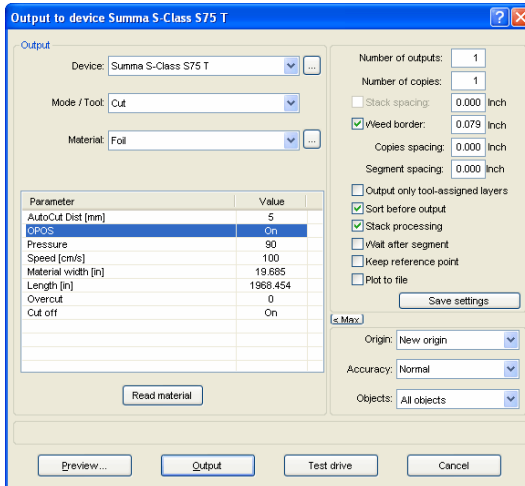
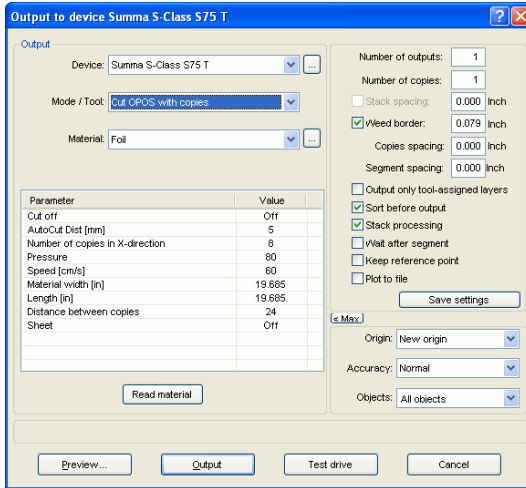

Fig. 4.10-5: Parameter setting OPOS=ON using the example of Summa S-Class
Fig. 4.10-6: Parameter setting with identical Job copies from roll (also possible with sheets, if the parameter "Sheet=On" was set)
The cutter described above are able to process sheets or rolls. EuroCUT's plotter driver support both functions. Fig. 4.10-5 and Fig. 4.10-6 show the driver parameter for the cutting with sensor for the processing of identical job copies using rolls or sheets (Fig. 4.10-6).
**Note:** The parameter "OPOS" is set automatically on "ON" if the appropriate marks are used. When processing identical copies of jobs on a roll using jog marks, the mode "OPOS cutting with copies" must be used (Fig. 4.10-6). Then additionally the number of copies in X direction can be set and as well as the mark distance between the copies in mm.